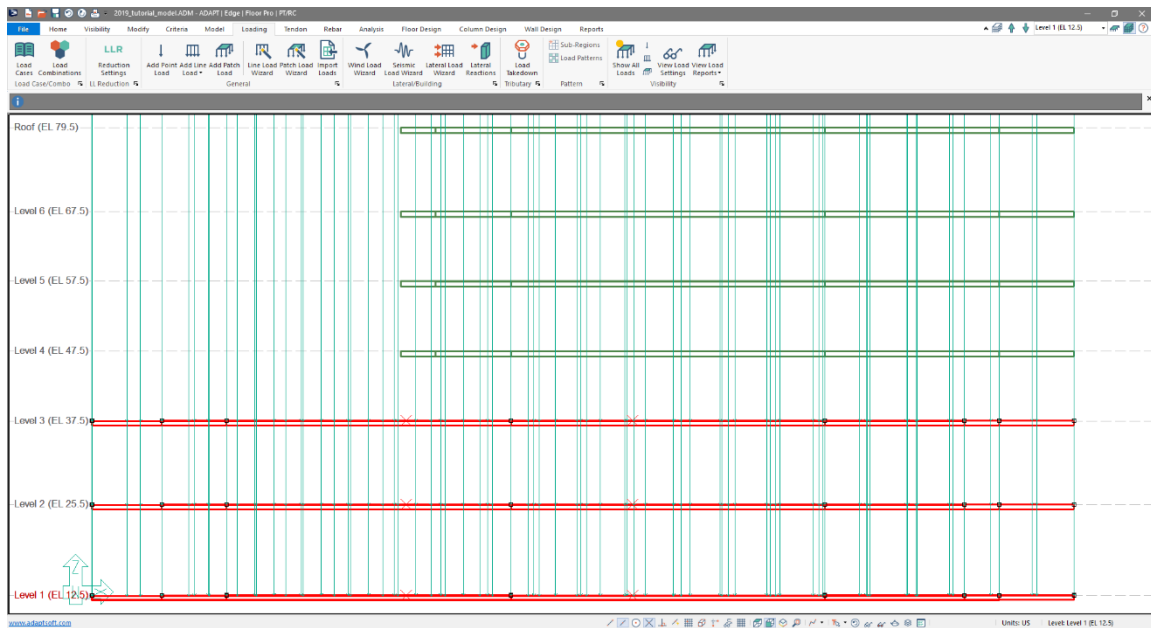

Figure 7-16
- The user will now see green lines representing the projection of the load as shown in **FIGURE 7-16**. We have applied a 40psf area load to each of the Level 1 through Level 3 slabs under the *Live Load* case.